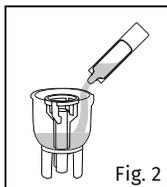

Fig. 2
4. Fill the nebulizer bottle with the medication prescribed by your physician (Figure 2).